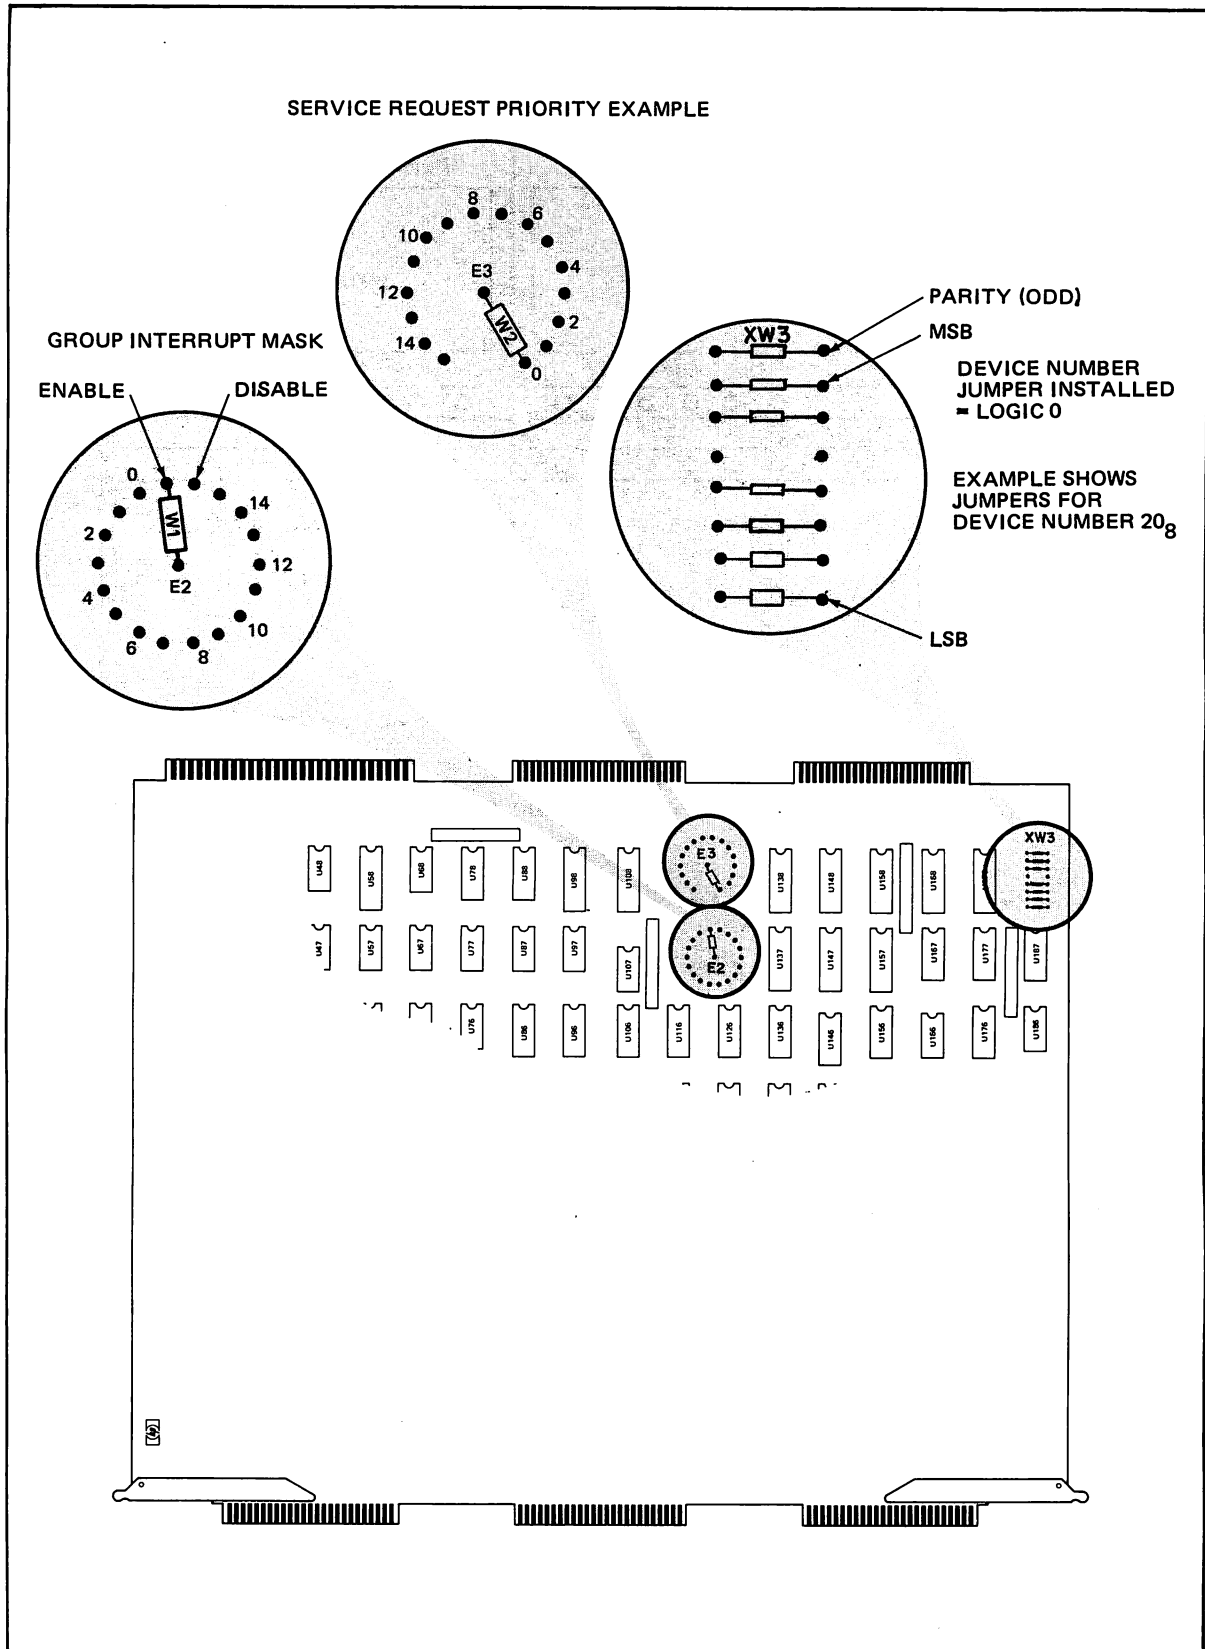

Figure 3-4. HSI PCA Jumper Locations
- a. Configure the HSI PCA jumpers shown in figure 3-4.
3. Configure the device number in socket XW3. The presence of a jumper signifies a logical "0". In the example in figure 3-4, position 5 does not have a jumper (logical 1) and the device number is decimal 16 or octal 20.